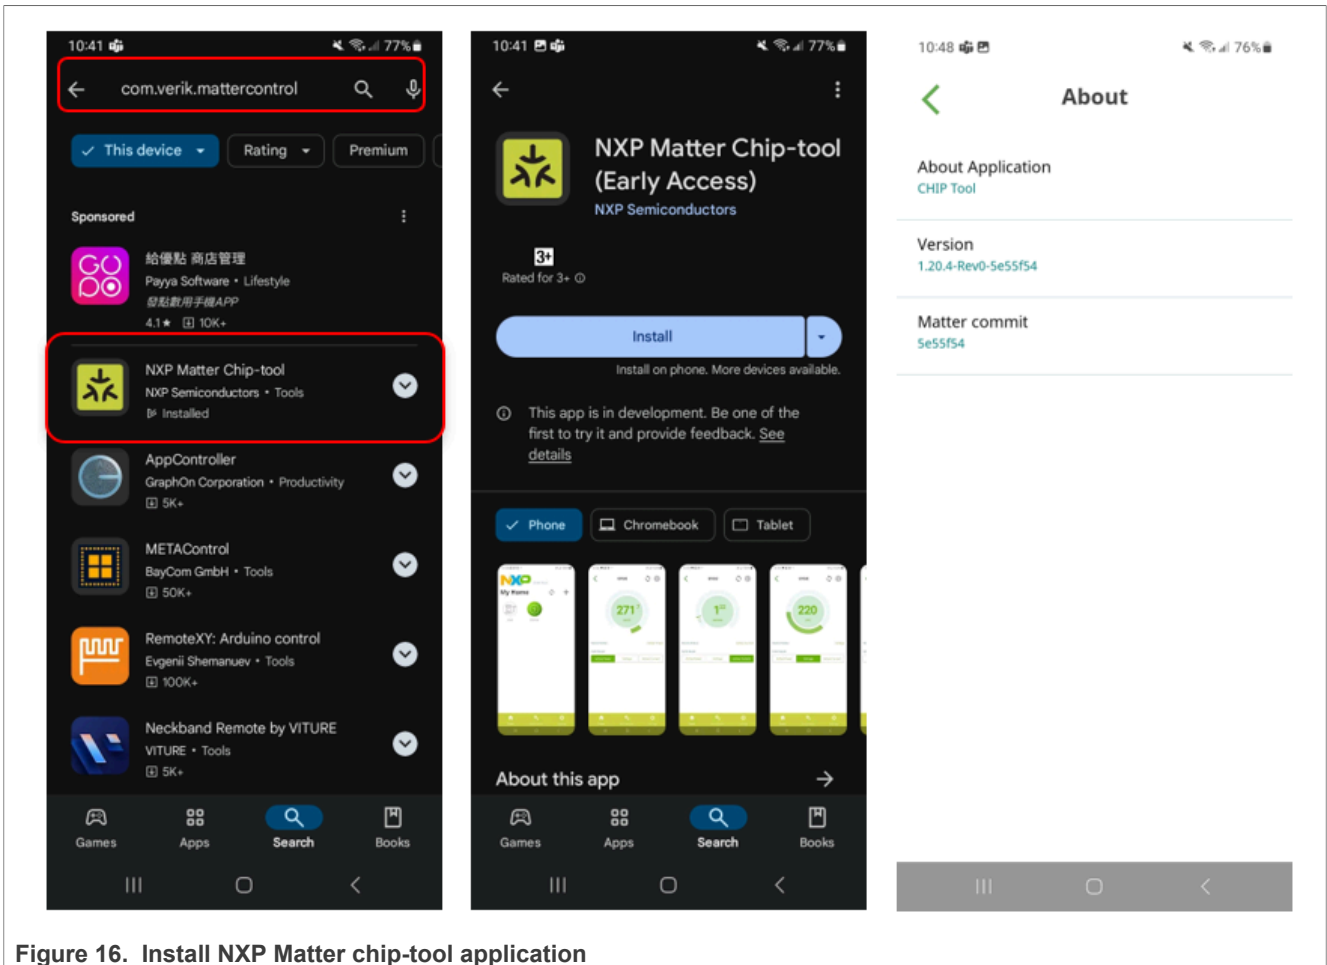

Figure 16. Install NXP Matter chip-tool application
- Search “NXP Matter Chip-tool” and select the app file for install as shown in Figure 16
- Complete the installation as shown in Figure 16